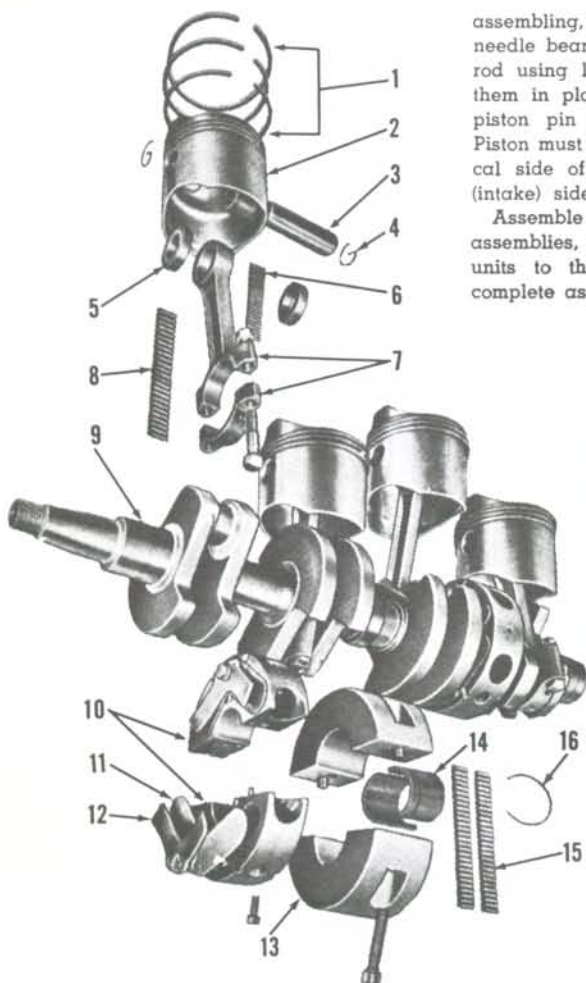

Fig. M7-26—Exploded view of crankshaft and associated parts used on four cylinder models. Six cylinder models are similar.
CONNECTING RODS, BEARINGS AND CRANKSHAFT. Upper and lower ends of crankshaft. Upper and lower ends of crankshaft are carried by a ball bearing. The second and fourth main bearings (10—Fig. M7-26) on four cylinder models; or the second, fourth and sixth main bearings on six cylinder models also contain the inlet reed valves. The third main bearing (13) on four cylinder models; or the third and fifth main bearings on six cylinder models; each contain two rows of 28 loose needle rollers (15) which ride in a split type outer race (14), held together by a retaining ring (16).